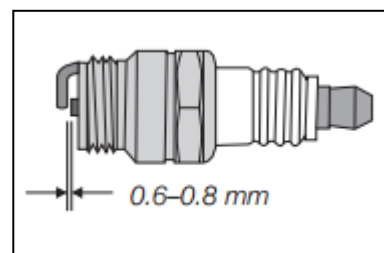

Figure 37
4. Check electrode gap with a feeler gauge and set gap to 0.030(0.76mm) if necessary. See Figure 37.